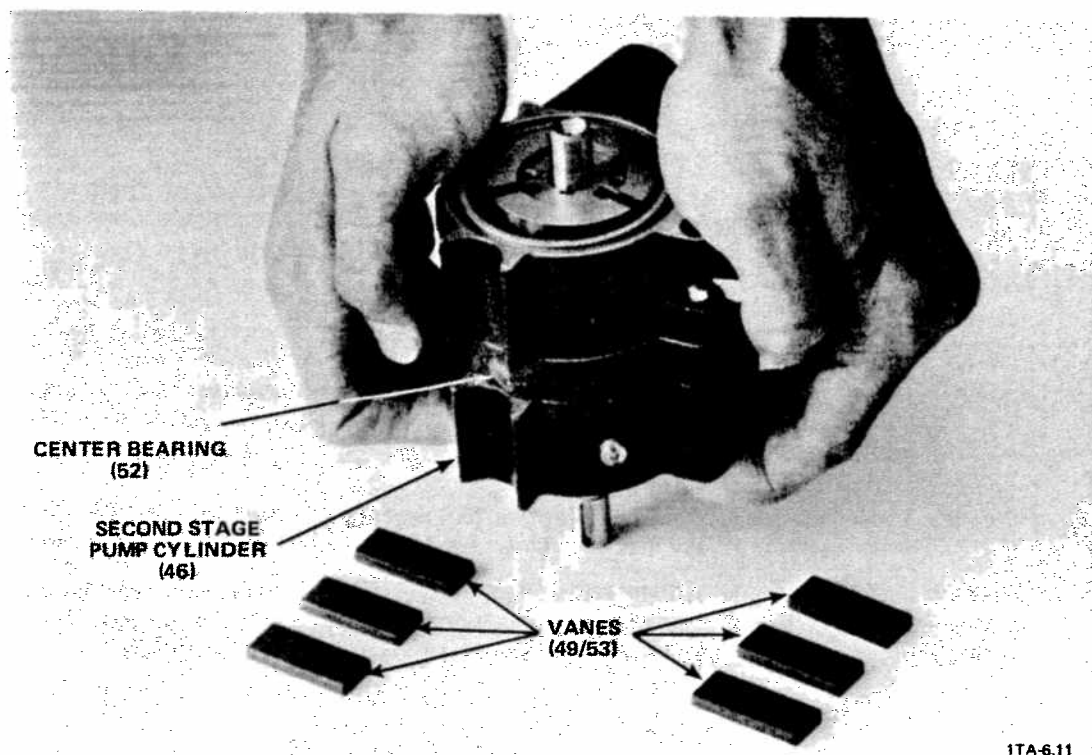

Figure 5-20. Pulling the Second Stage Pump Cylinder Tight Against the Center Bearing (D2A Pump Model Shown)
d. Attach the assembly that you put together in Step b(3) to the second stage pump cylinder as follows (see Figure 5-20):
(1) Take the assembly from Step b(3) and insert its second-stage end (the end that has the longer section of the shaft) down into the second stage pump cylinder (46).
(3) **NOTE:** When Step d(3) is completed, the beveled ends of the two long cylindrical pins (65) should extend most of the way through the upper alignment holes in the second stage pump cylinder (46).
REQUIRED ACTION: For the D2A, D4A, D8A, and D16A pump models, while keeping the assembly vertical, pull the second stage cylinder (46) straight up over the long cylindrical pins (65) until it is tight against the center bearing plate (52) (see Figure 5-20).
f. While keeping the partially assembled module vertical, fit an O-ring (47) into the O-ring groove on the HV-cylinder (55) surface that is facing up (see Figure 5-20).
g. Attach the rear end plate (60) to the partially assembled module as follows:
- (1) **NOTE:** Be sure to attach the rear end plate (60) to the HV-stage end of the module. The HV pump cylinder (55) is the one with the intake tube portion.